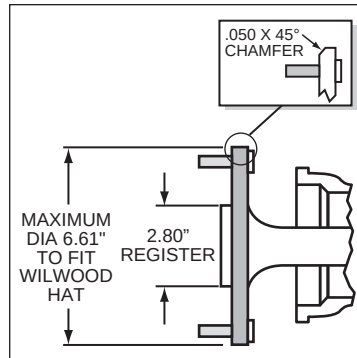

Figure 3. Axle Flange Maximum Dimension
- Axle center register diameter is 2.80", Figure 3. This kit uses Wilwood's removable center register adapters. Rotors can either be centered on the axle register, i.e. *register-centric* or centered on the wheel studs, i.e. *stud-centric*. Due to variations in wheel stud final diameters, *register-centric* centering can be a more accurate method of centering the rotor to the caliper. Wilwood offers various diameter adapters for purchase in addition to the ones supplied in this kit, see Table 1.
- Maximum axle flange diameter must be no larger than 6.61" w/.050" x 45° chamfer, Figure 3.